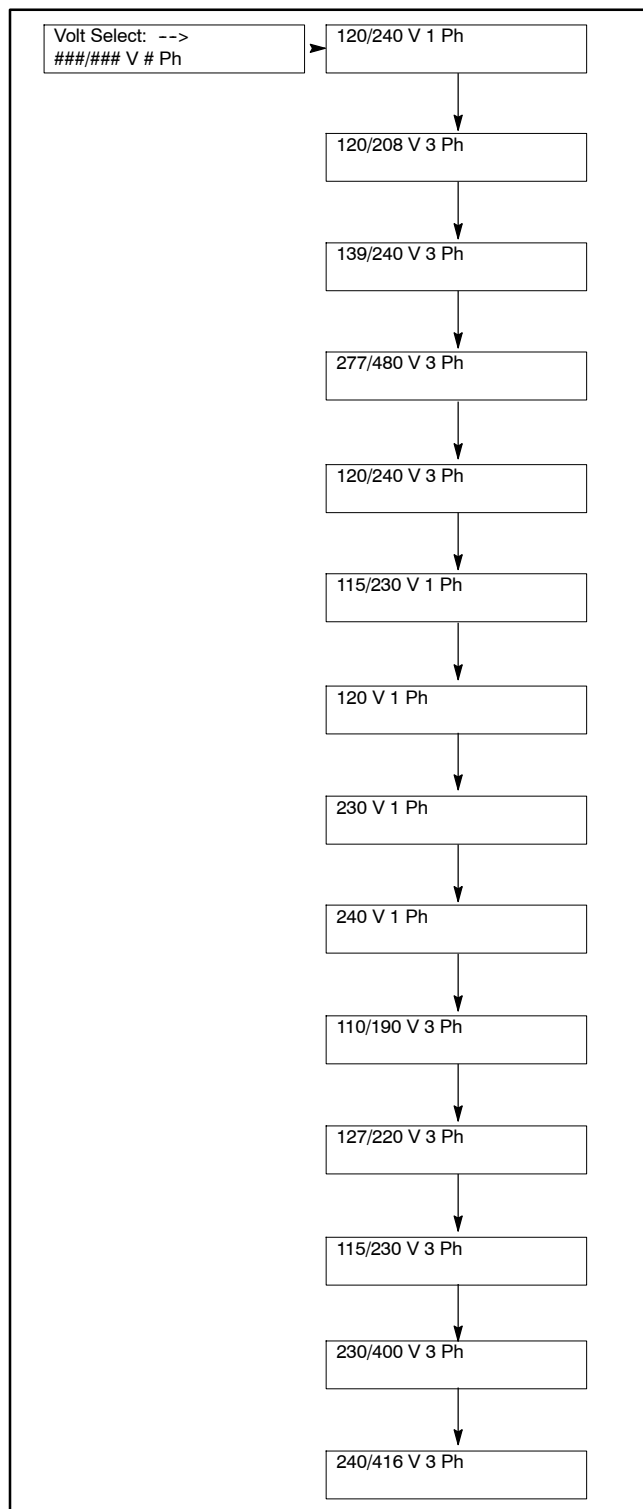

Figure 8-1 Volt Select Menu
2. Turn the controller pushbutton/rotary selector dial until it stops at the Volt Select menu. See Figure 8-1.